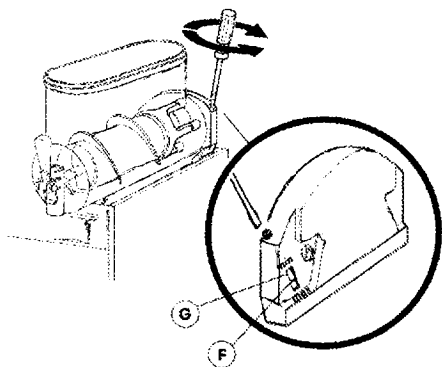

figure 4
- 1- **Granita viscosity adjustment:** proper Granita viscosity is factory preset. To change the viscosity, if needed, use a standard screwdriver to turn the adjustment screw located in the rear wall of each container as follows (see figure 4):